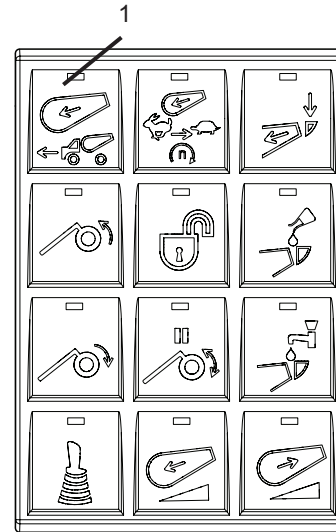

Figure 23
1. To manually engage CONSTANT SPEED mode, press the optional in-cab control keypad (Figure 23, Item 1). The button indicator will illuminate.